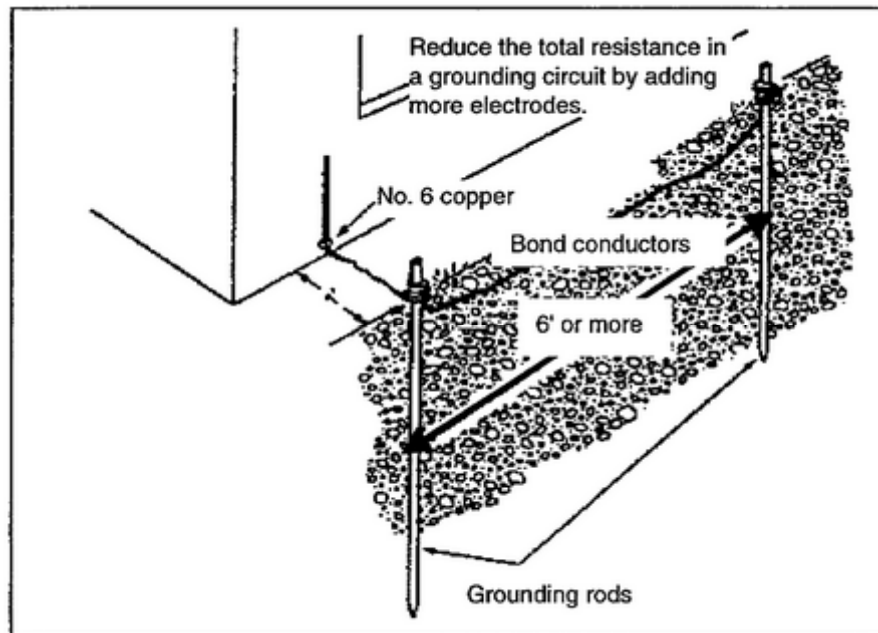

Figure 1-13. Additional grounding rods
- a. Drive additional 8-foot grounding rods into the earth and bond them together. The rods must be at least 6 feet apart (Figure 1-13).